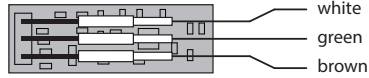

Fig. 20
2. The connection details to the sensor board are shown on Fig. 20.
3. Make sure to connect the cable to the sensor correctly. Incorrect connection may damage the sensor! The sensor cable should be connected via RJ10 plug to the free sensor bus jack in the relay box (as shown on Fig. 20).